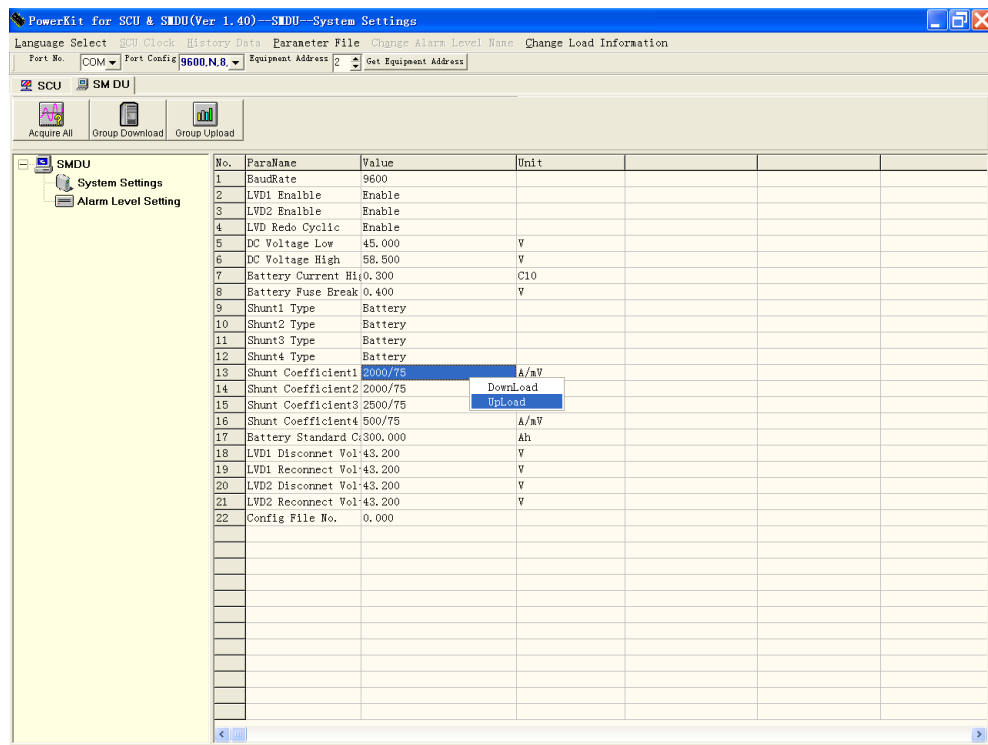

Figure 7-8 Upload parameter
9. Click the right mouse button. Select **Upload** to upload the SM DU parameter, as shown in Figure 7-8.